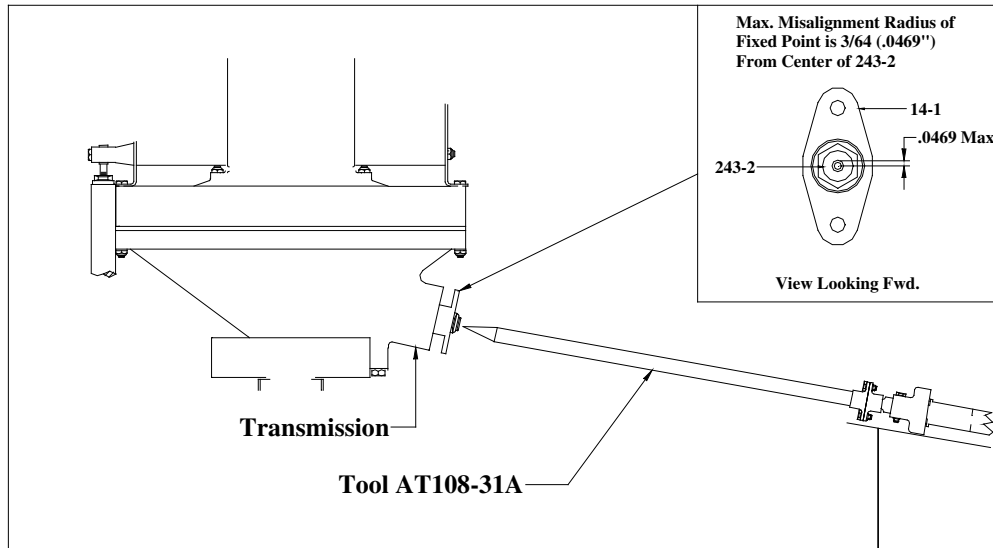

Fig SB-106-2 Forward End Alignment
- 1.2 Mount tool AT-108-31A to the forward side of the long tail rotor drive shaft as shown in figure SB-106-2.
- 1.4 Measure the distance between this point and the center of the output shaft of the transmission. See fig. SB-106-2.
NOTE	Use calipers with a .001" inch accuracy for this measurement. This dimension should be 3/64 (.0469) inch or less. See fig. SB-106-2.